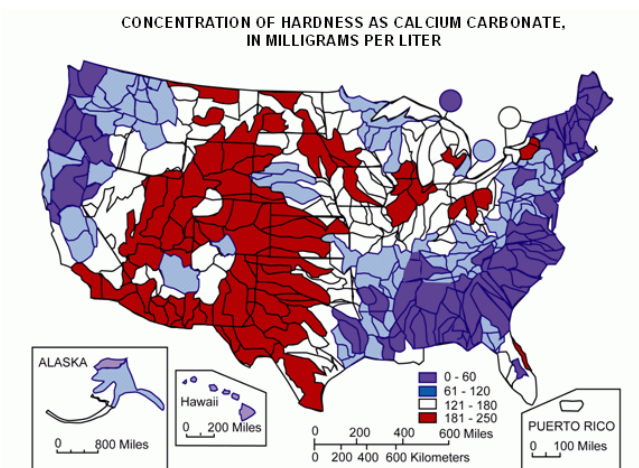

Figure 1. Average hardness as calcium carbonate at water-monitoring sites (1)
Hard water affects the water quality of about 85% of the U.S., as naturally occurring soft water only occurs in 15% of the nation (1). Figure 1 displays the degree of hardness areas across the U.S. experience their water as. The figure classifies hard and soft water according to their calcium carbonate (CaCO_3) concentration. Soft water may contain anywhere from 0 - 60 mg/L of CaCO_3 , shown as dark purple, while hard water contains from 121 - 180 mg/L, shown in white (1). The design project is focused in Wisconsin, which the graph displays to contain a combination of hard and very hard water.